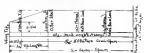

Fig. 55
- 4.—Compute the relative efficiency of the wings. (See Fig. 55.)
- 4.—The relative efficiency of the wings is determined from Fig. 55. This figure gives the ratio of the normal lift on the upper wing to that on the lower wing as a function of the gap/chord ratio and stagger in degrees. When a wing of a biplane is close together the upper wing interferes with the lower wing destroying some of its lift. The upper wing is more effective for low gap/chord ratios. Staggering the wings positively (making the lower wing the rear) makes the upper wing even more effective. It is
In using Fig. 55, the gap/chord ratio and the stagger as measured on a vertical section midway between the side of the fuselage and the effective tip of the shorter wing. The same relative efficiency shall be used for all flying conditions.
e is the efficiency of the upper wing as obtained from Fig. 55